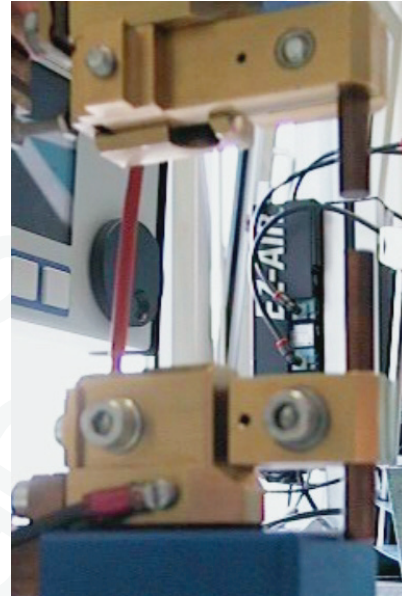

Fig. 4: (-) Connection (example)
- Connect the black cable (-) terminal to the welding head (-) pole (Fig. 4) at the position provided for this purpose.